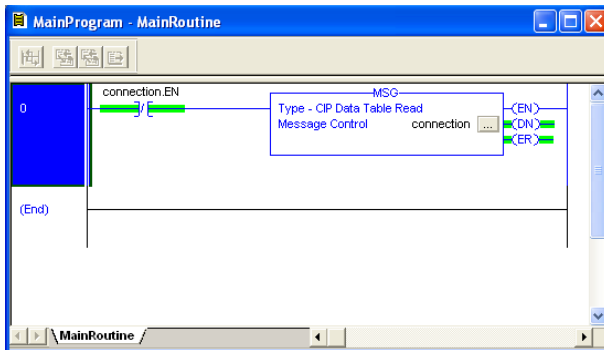

Figure 103: Complete Program
- 6) The program is now complete. Refer to Figure 103.